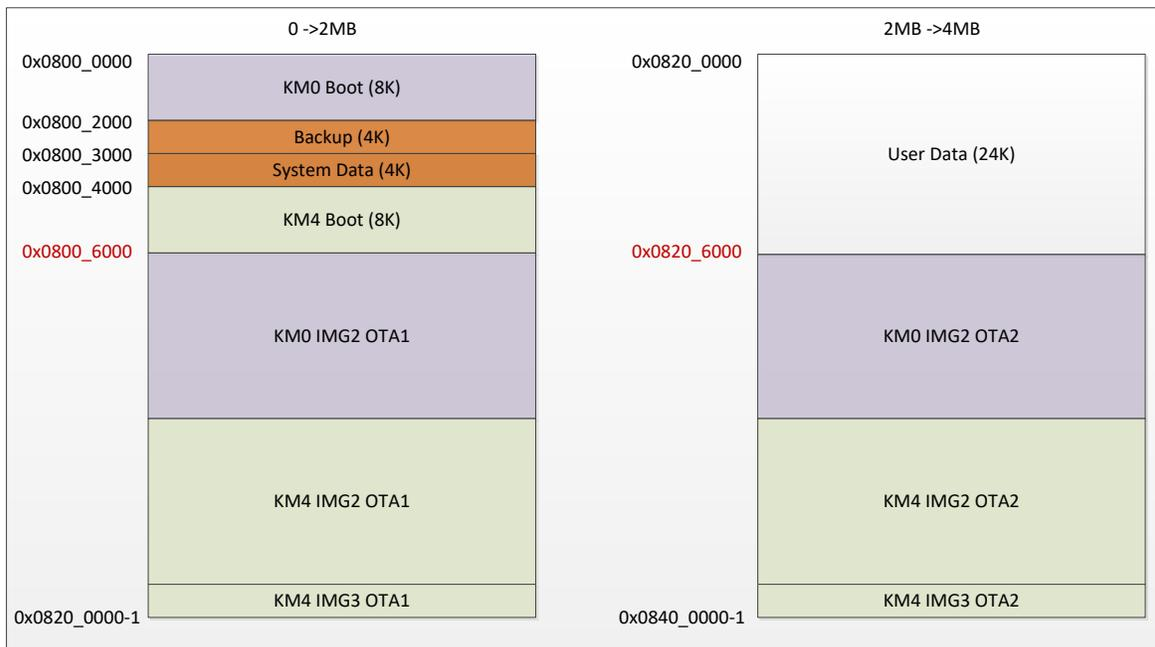

Fig 9-4 4M Flash program layout example
For 4M Flash, an example of Flash layout is illustrated in Fig 9-4. In this example, 2024K Flash size can be used for KM0 & KM2 image, and you can modify the layout according to your actual conditions. Because bootloader will be called by ROM code, the address of bootloader cannot be changed. Other addresses except bootloader can all be changed by user, but before you change these addresses, make sure that you are familiar with Ameba-D system and SDK.
- (1) Modify **OTA_Region** in rtl8721d_bootcfg.h, change OTA2 region start address according to your actual Flash layout. When using 4M Flash program layout example as shown in Fig 9-4, OTA region should be modified as below:
- (2) Modify OTA address definition in rtl8721d_ota.h, redefine **LS_IMG2_OTA2_ADDR** macro according to your actual Flash layout. When using 4M Flash program layout example as shown in Fig 9-4, OTA address should be modified as below:
- (1) For BT FTL start address, re-define **ftl_phy_page_start_addr** variable in rtl8721dhp_intfcfg.c, note that SPI FLASH address base 0x0800_0000 is subtracted when calculating **ftl_phy_page_start_addr** variable, and **ftl_phy_page** will consume 3*4=12KB Flash starting from **ftl_phy_page_start_addr**. When using 4M Flash program layout example as shown in Fig 9-4, BT FTL start address should be modified as below:
- (2) For Wi-Fi fast connect profile address, redefine **FAST_RECONNECT_DATA** macro in platform_opts.h, and SPI FLASH address base 0x0800_0000 is subtracted when calculating **FAST_RECONNECT_DATA** macro. Note that Wi-Fi fast connect profile address should not recover the 12KB Flash starting from **ftl_phy_page_start_addr**, as this region is reserved for BT FTL. When using 4M Flash program layout example as shown in Fig 9-4, Wi-Fi fast connect profile address should be set to 0x202000+0x3000=0x205000.